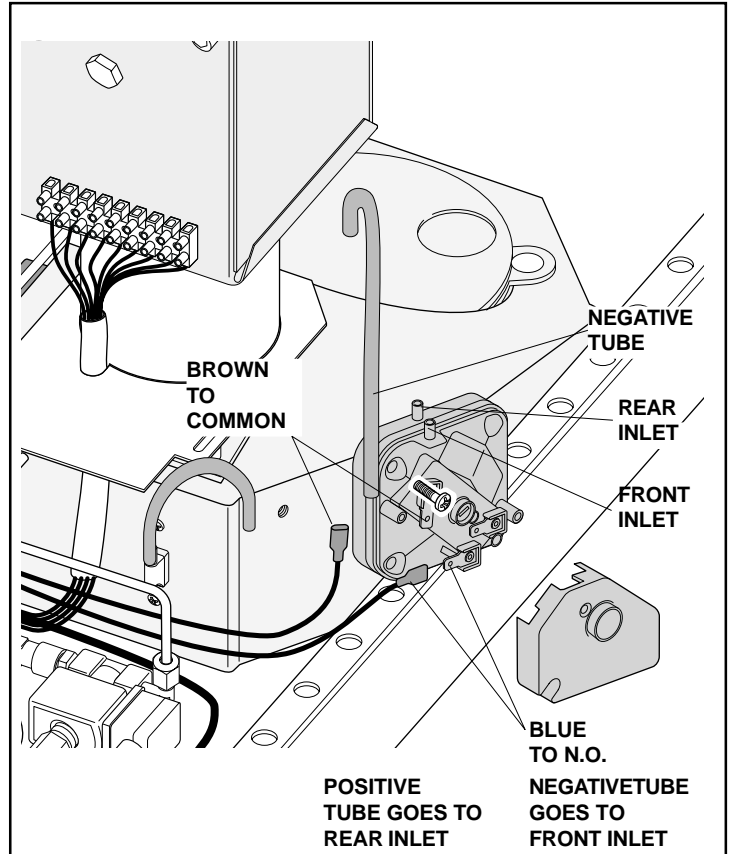

FIG. 20
- 8:1 TO REMOVE THE PRESSURE SWITCH, REMOVE THE NEGATIVE AND POSITIVE PRESSURE TUBES FROM THE SWITCH - NOTING THAT THE POSITIVE TUBE GOES TO THE REAR INLET ON THE SWITCH (FIG. 20).